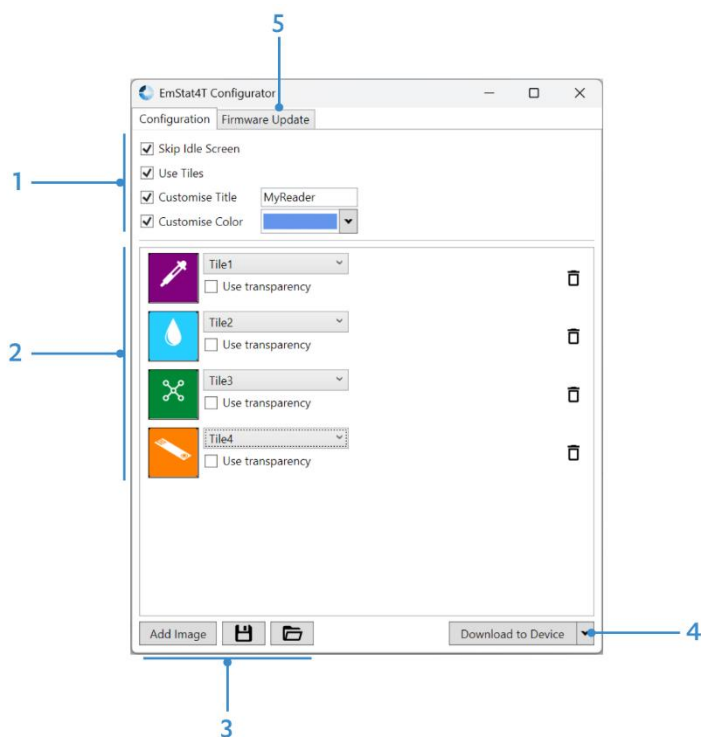

Figure 20 - EmStat4T Configurator tool window
The checkboxes under Figure 20 – 1 change the following settings when enabled:
- **Use Tiles:** makes the EmStat4T show tiles instead of a list with the available apps. The tiles can be customized (see Figure 20 – 2) using images.
The area under Figure 20 – 2 contains a list with images that were added using the ‘Add Image’ button. Each button can be configured to be used for a specific purpose. Options include using the image as:
The settings can be saved and loaded with the buttons found at the bottom of the screen (Figure 20 – 3). This can be useful if the same settings need to be programmed into new EmStat4T’s.
To store the new settings to the EmStat4T use the ‘Download to Device’ button, see Figure 20 – 4.
The regular firmware update tool of PStRace cannot be used for firmware updates to the EmStat4T. Use the tab 'Firmware Update' in the EmStat4T Configurator Tool instead (Figure 20 – 5).